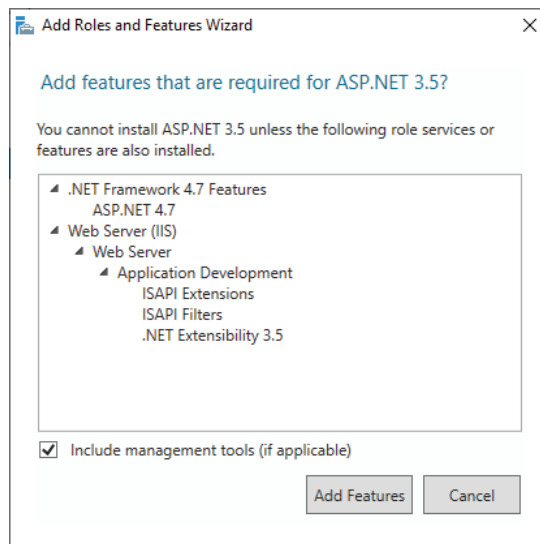

Figure 18 – Add Features
19. In the **Add features that are required for ASP.NET 3.5**, select **Add Features** (Figure 18).